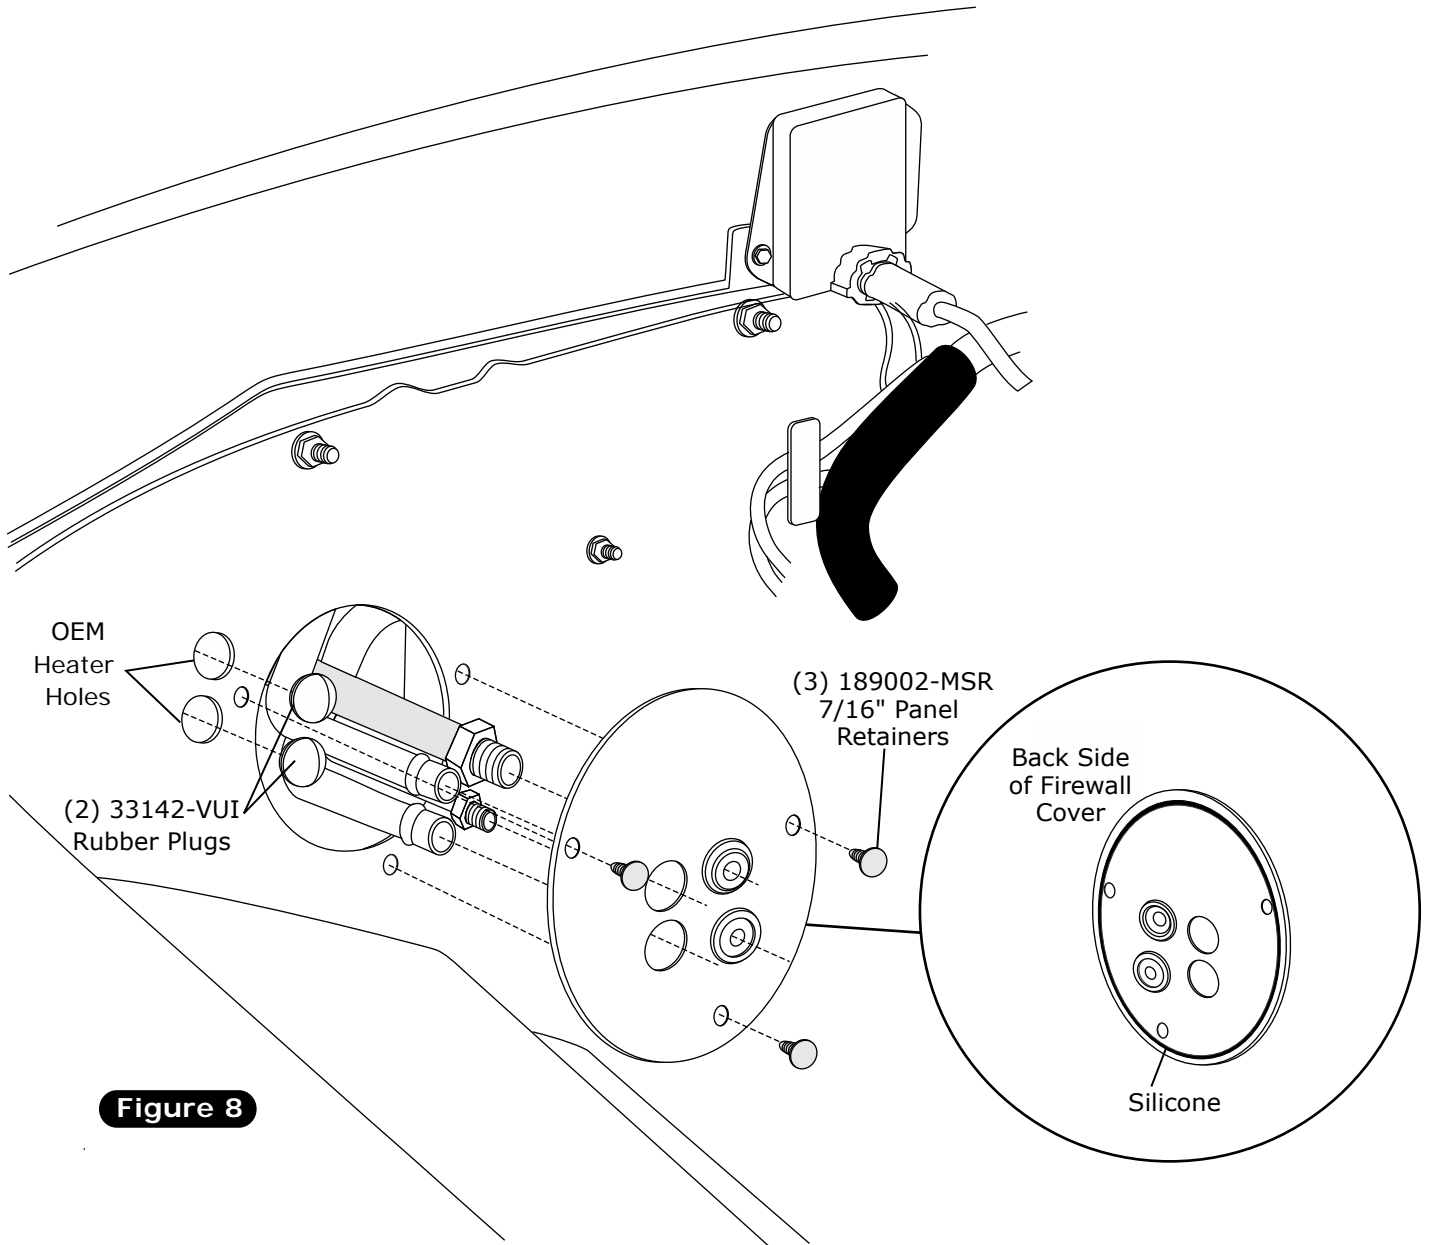

Figure 8
1. Apply 1/4" bead of silicone around the back side of the firewall cover as shown in Figure 8, below.
2. Pass lines through firewall cover and secure with (3) 7/16" panel retainers (See Figure 8, below).
3. Install (2) 33142-VUI rubber plugs in OEM heater holes as shown in Figure 8, below.